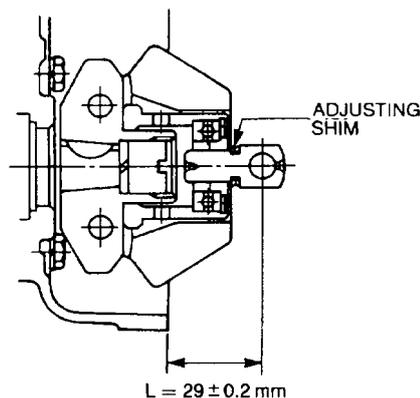

Figure 105 Shifter and Sleeve Assembly Setting Dimension
- i. Hold the shifter and sleeve assembly against the flyweight holder to ensure that the flyweights are in the zero lift position and measure the distance between the governor housing face and the centre of the pivot pin hole in the shifter (Figure 105). The dimension should be 28.8 to 29.2 mm (1.134 to 1.149 in). If the dimension is to specification, proceed to sub-para k. If the dimension is not to specification, carry out the procedures detailed in sub-para j.